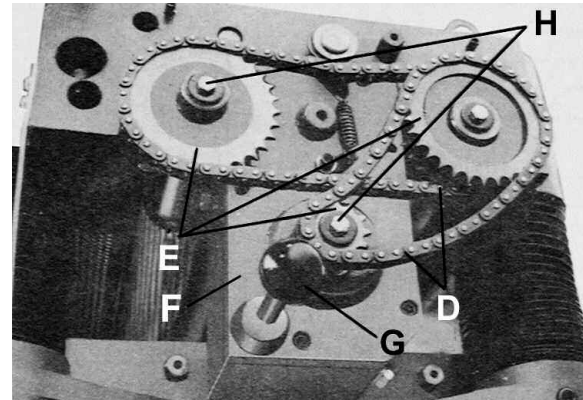
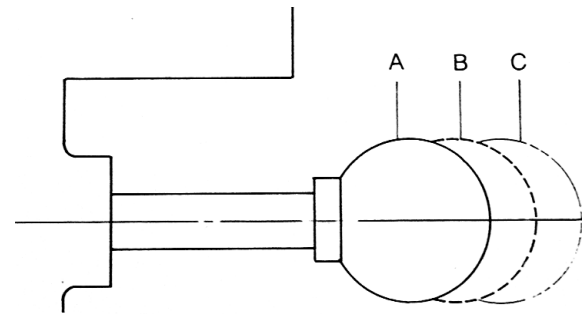

FIGURE 27
FIGURE 28
Your planer is equipped with a spiral, serrated infeed roller and a solid steel outfeed roller. When the feed rollers are engaged, they turn to feed stock. The feed rollers slow down automatically when the planer is under heavy load. The feed rollers are driven by chains (D) Fig. 27 and the sprockets (E), which take power directly from the cutterhead through the oil gear box (F).
There are two feed speeds in the gear box, they are controlled by using the speed shift lever (G) Fig.27. When the speed shift lever is completely pushed in (A) Fig.28, the feed speed rate is 6.1m/min (20 ft/min), when it is completely pulled out (C) the feed speed rate is 4.8m/min (16 ft/min) and the center position (B) is a neutral setting.